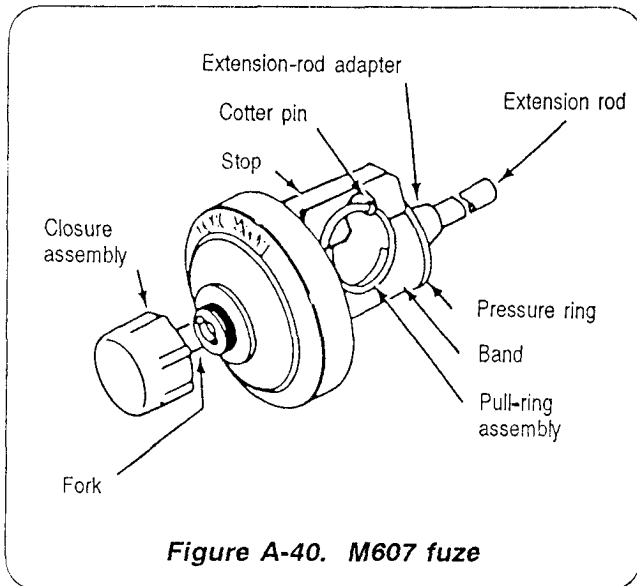

Figure A-40. M607 fuze
b. Ensure the cotter pin of the fuze pull ring assembly and the fuze closure assembly are securely in place (Figure A-40).